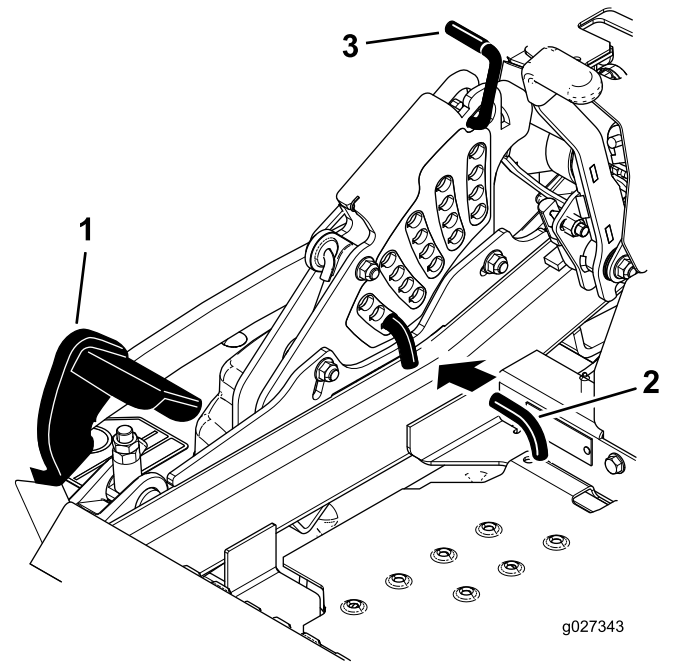

Figure 93
5. Push the deck-lift pedal all the way forward and the deck latches at the 14 cm (5-1/2 inches) transport position (Figure 93).